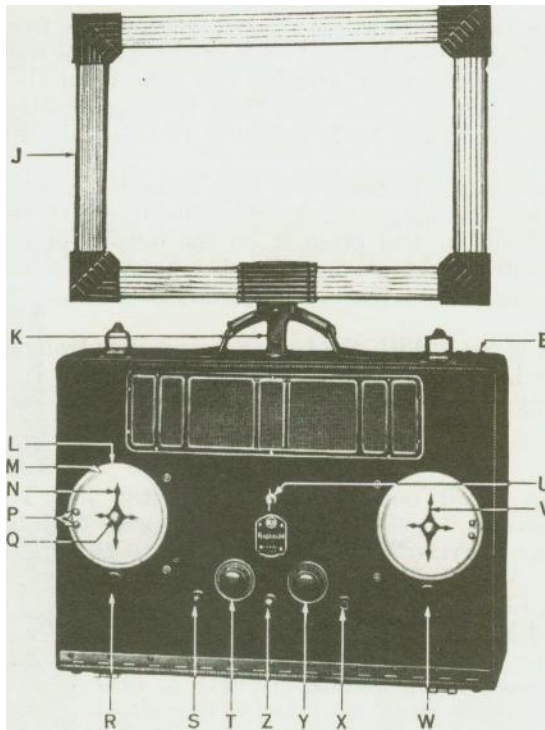

Fig. 4. Radiola 24 Ready for Operation
*Filaments.* Pull out the filament switch **Z**. Turn the "VOLUME CONTROL" knob **Y** (Fig. 4) clockwise to 100. Turn the "BATTERY SETTING" knob **T** clockwise to the arrow mark on the dial. WITH FRESH BATTERIES, DO NOT TURN THE POINTER PAST THE ARROW MARK. THIS IS EXTREMELY IMPORTANT as you will otherwise shorten the useful life of the radiotrons and batteries, and little will be gained in ease of tuning, signal strength or otherwise. As the batteries grow older with use, this setting should be gradually advanced from week to week toward "100." Push in the amplifier switch **S**, which gives the full amplification of the receiver. Head telephones may be plugged into the telephone jack **X** when the user desires.